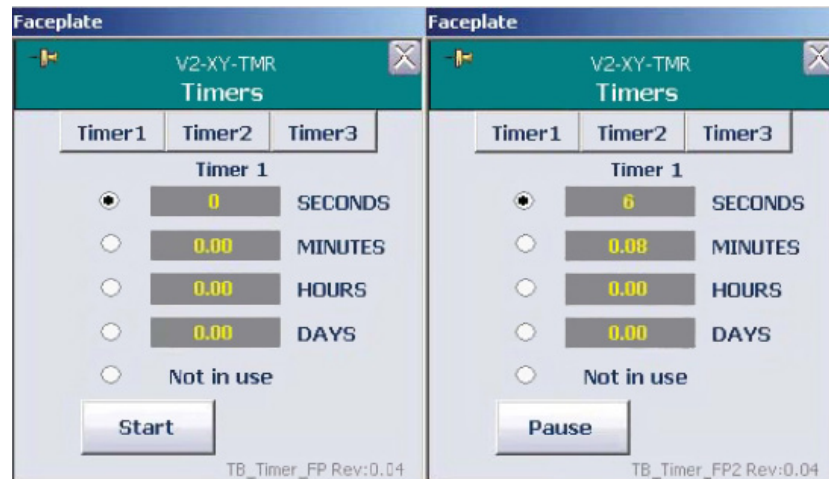

Figure 4.41. “Start” and “Pause” buttons on faceplate after setting into Cascade mode.
10. Open the pump faceplate and set the pump into “Cascade” mode. The “Start” button appears on the timer faceplate. After the dosing process begins, the “Start” button changes to “Pause” (Figure 4.41).